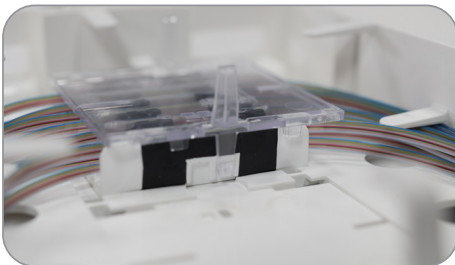

Figure 11
8. If only splicing on layer one, attach double stack adapter plate to the top of the layer one module (**Figure 11**).
12. Take fully spliced layer two splice modules and rotate in place above layer one. These modules will snap down onto layer one (**Figure 11**).